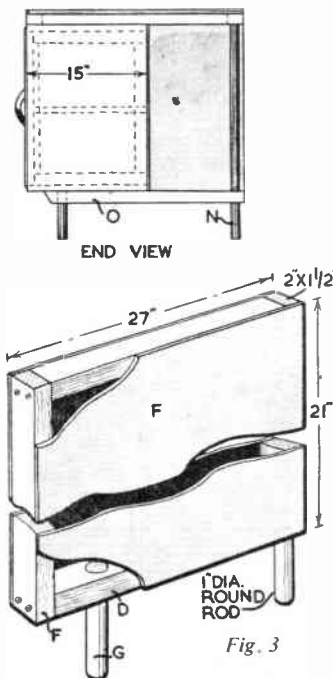

Fig. 3
Next make up the end as shown in Fig. 3. The framework is butted at the corners and secured by countersunk screws. The heads are afterwards covered with plastic wood or woodfiller. The legs (G) are let into the bottom rail (D) and should be glued in position. A nail through the side into the leg will prevent any movement.
Complete the main construction by fixing the cabinet to the top, with screws through (J) into (A). The end, shown in (Fig. 3), is also fixed in place at this stage. Drive long screws down through the top frame (A) into piece (D) and countersink the screws. Fill with plastic wood.